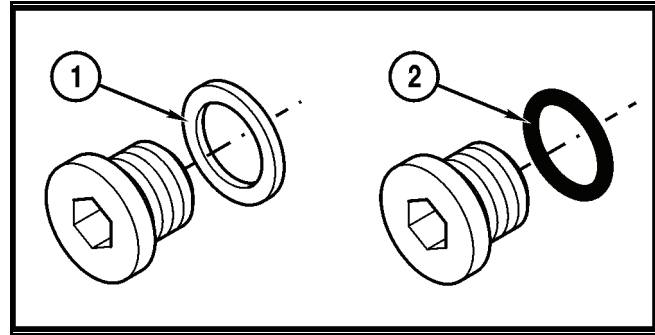

Figure 5-46
- Plug with Copper Washer (**Figure 5-46, 1**): 52 lb-ft (71 N·m)
- Plug with O-ring (**Figure 5-46, 2**): 37 lb-ft (50 N·m)